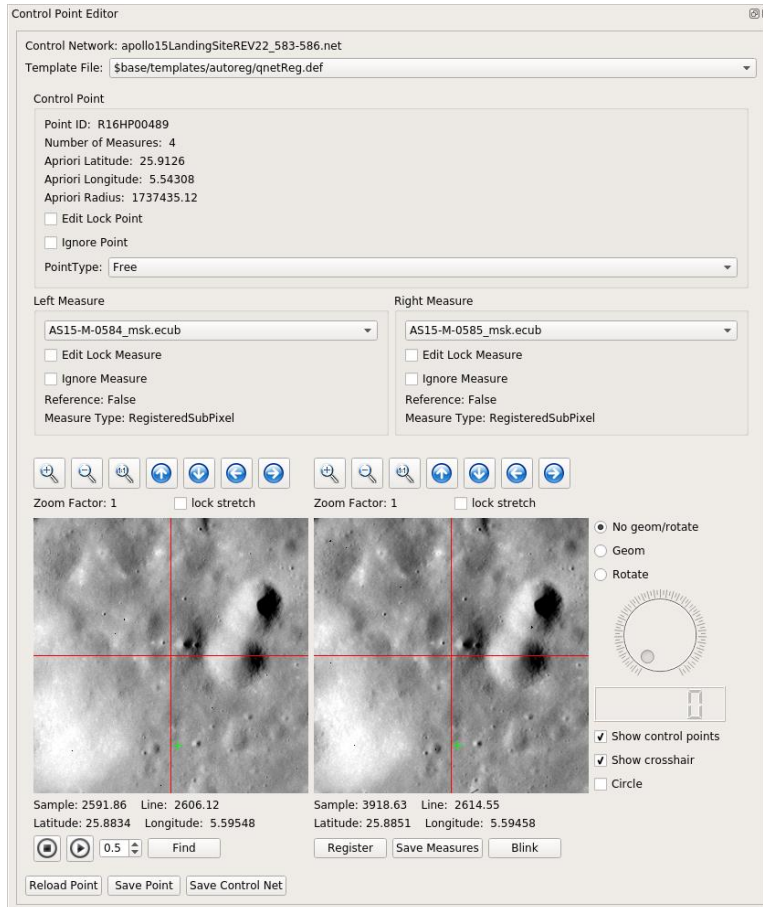
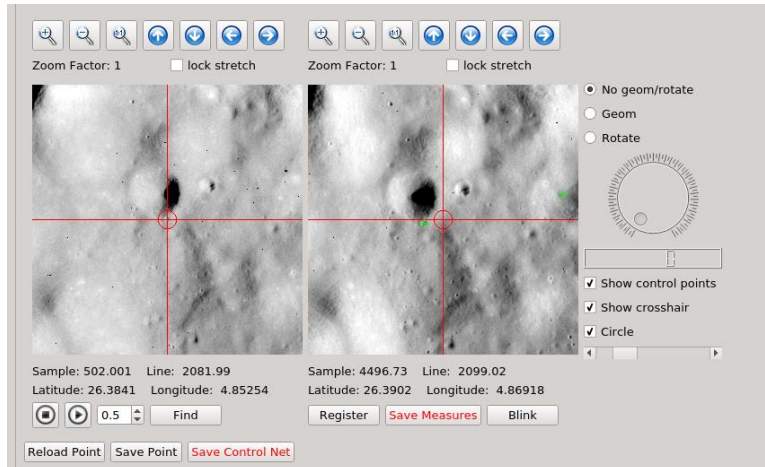

Figure 25: Control Point Editor
Figure 26 Red crosshair and circle options
Within the Control Point Editor two measures can be viewed side by side this aids in making sure each measure does indeed lie at the same geographical location. The points are moved by either clicking a new location on the image or using the arrow keys seen in Figure 25. This process is further strengthened by selecting a control point at a distinct feature such as a crater in this example but it can also be anything that is easily distinguishable in all images. In Figure 26 it shows the red crosshair with a circle around it and the green + indicate control points. These are tools to aid in getting measures located accurately. In the left image the red crosshair is at the location of the control point. In the right image the crosshair has been moved the right of the green control point. Notice save measures is in red this is because the red crosshair represents the location of the measure in that image and since it has been moved the option to save that new location is now available.
- **Register:** Sub-pixel register the right view to the left view (Shortcut: R). This is where the Registrations templates comes in. At the top of Figure 25 there is a drop down to select Template file. This will default to \$base/templates/autoreg/qnetReg.def but it can be changed to any of the imported Registration Templates.